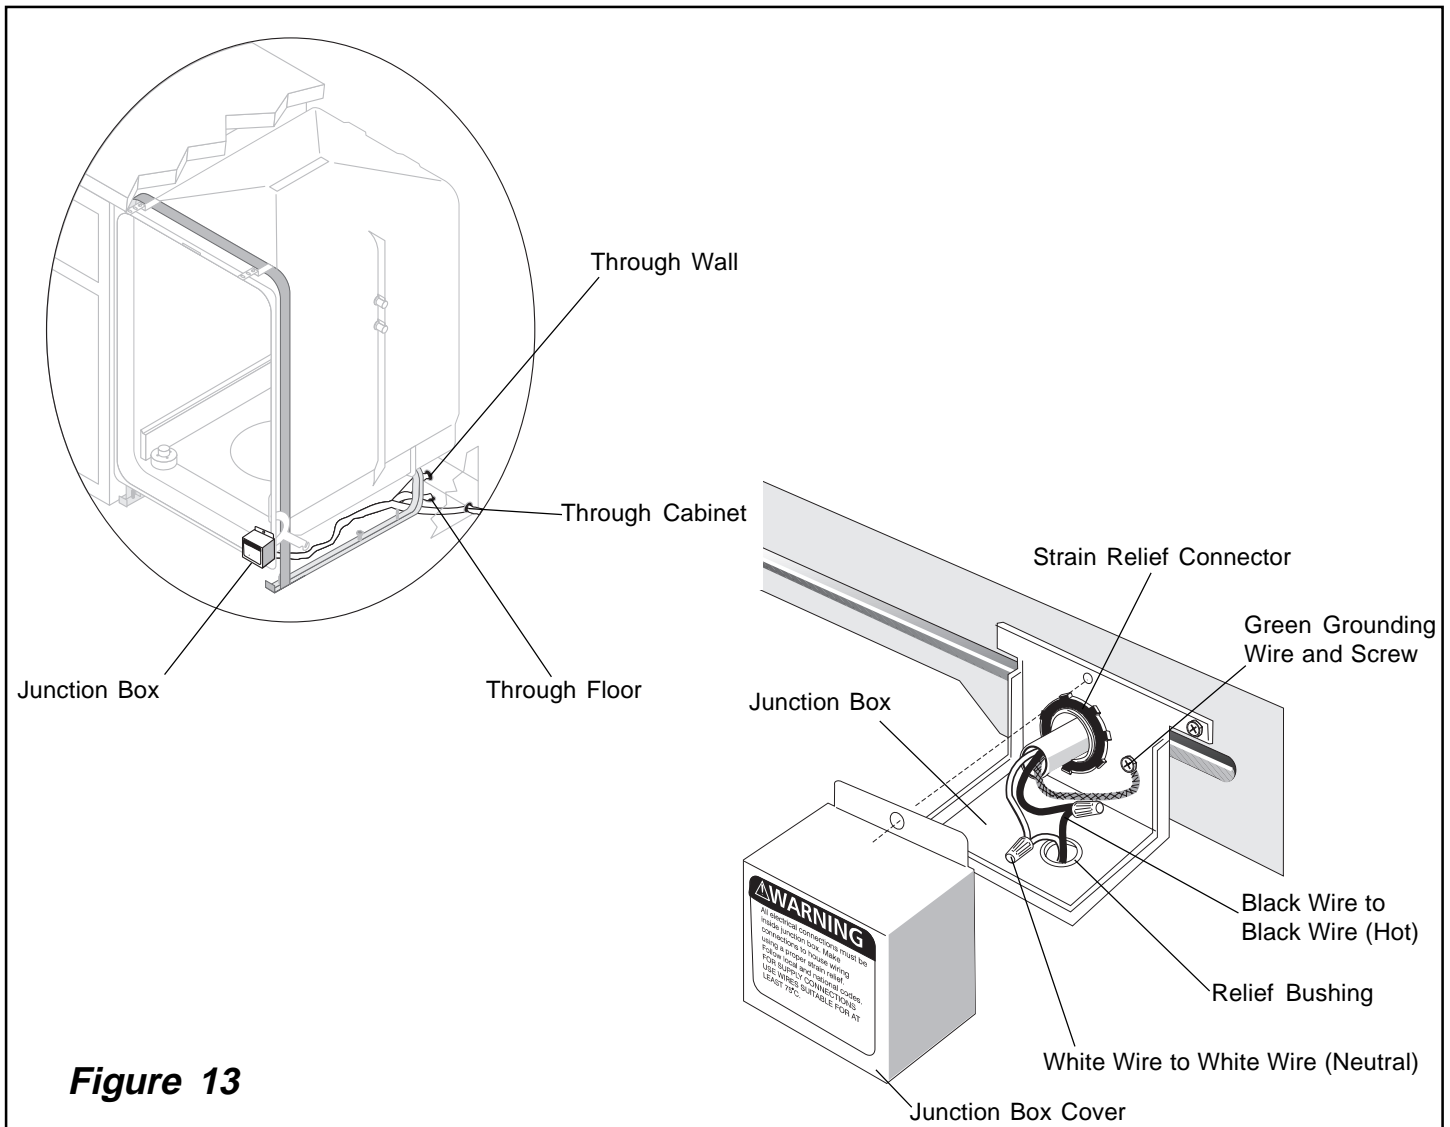

Figure 13
1. Remove the junction box cover (see Figure 13).